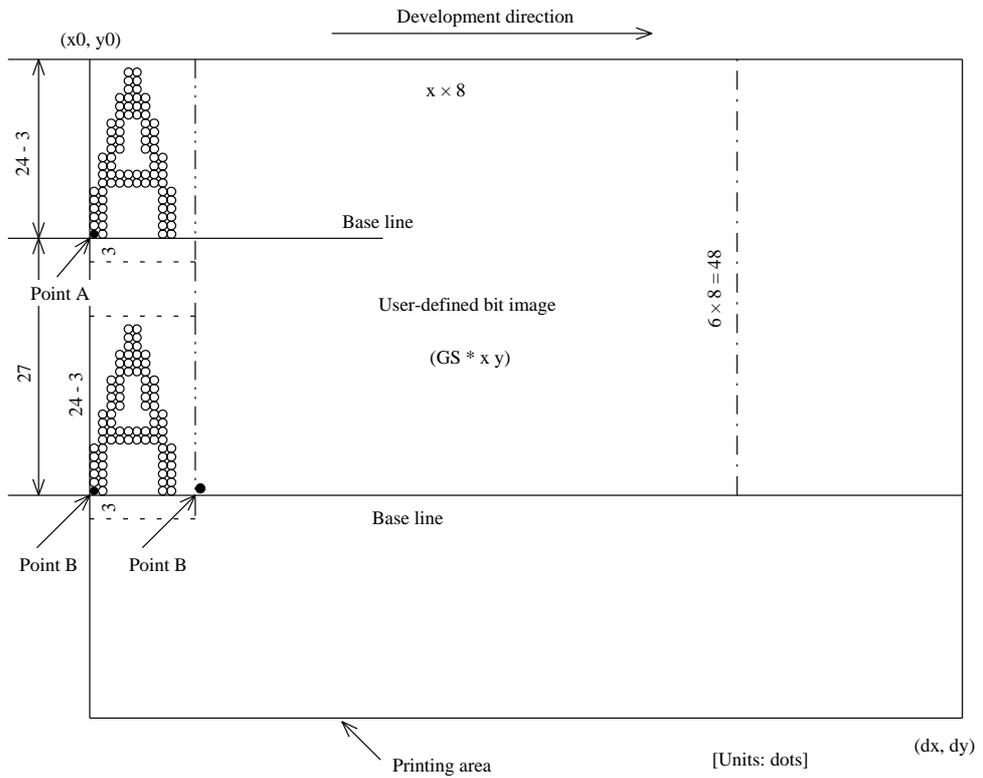

Figure 3.12.4 Downloaded Bit Image Developing Position
- 4) The default value of the line spacing is set to 4.23 mm {1/6"} and corresponds to 30 dots in the vertical direction. If print data for the next line contains extended characters that are higher than double-height characters, bit images taking up two or more lines, or bar codes higher than normal characters, the amount of line feeding may be insufficient, resulting in overlapping of the characters' higher-order dots with the previous line. To avoid this, increase the amount of line spacing. The line spacing in Figure 3.12.4 requires 27 dots or more.